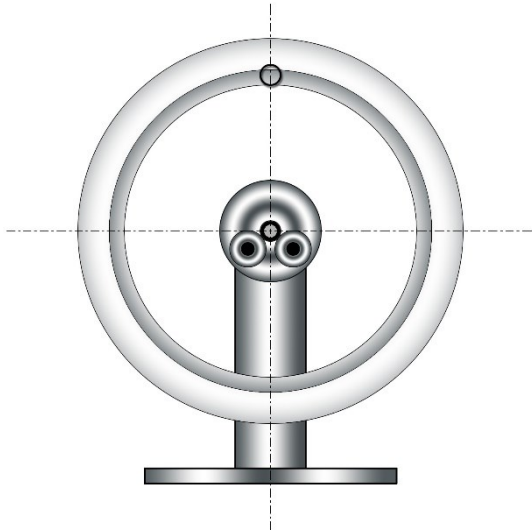

Figure 1 Resting rim without tire
- When the rim has come to rest, the lightest point is at the top (see Fig. 1).
- For further work it is useful to mark the lightest point (point on fig. 1 above). For this, you can use oil chalk or a piece of adhesive tape.